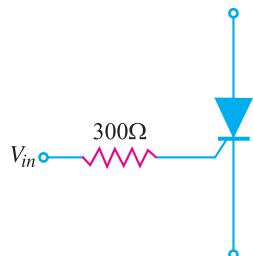

Fig. 20.30
5. In Fig. 20.30, what value of input voltage would be required to cause the *SCR* to break down if the gate current required for firing is 10 mA ? [3.7V]